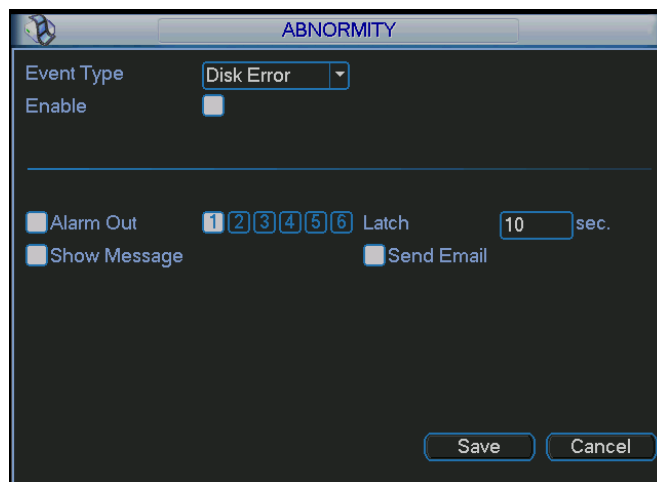

Figure 3-60
- Alarm set: Click alarm set button, the interface is shown as below. See Figure 3-60. (This interface is just like the abnormality setup). Please refer to chapter 6.7.2 for detailed information.